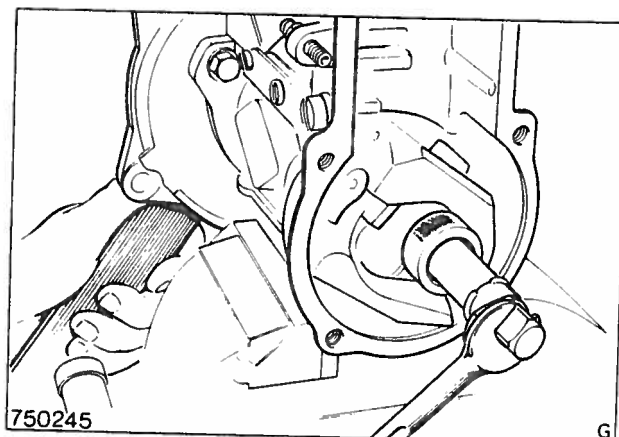

Fig. 47 Removing the hub
2. Using the advance hub puller Tool No. KDEP 2944, remove the hub, Fig. 47.